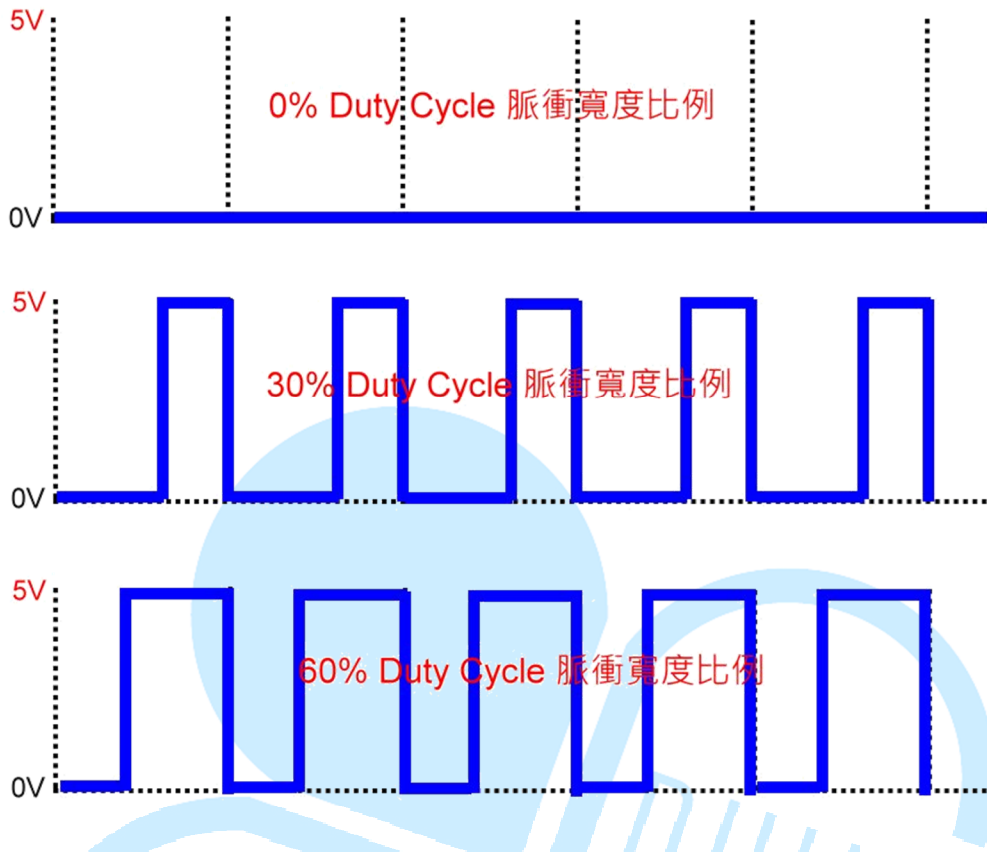

Figure-2. PWM with different duty cycle
The length of time for each square wave is refer to as the duty cycle. Frequency (Hz) is the number of square wave over a period of time. For example, 60 square wave within a period of 1 second is 60 Hz/Sec. A continuing stream of these square wave, adjusted to different frequency and duty cycle, can be applied to different purpose, as shown in figure-2.
- To generate PWM output as the 1st wave in figure-2 (0% duty cycle), use the following function:
- To generate PWM output as the 2nd wave in figure-2 (30% duty cycle), use the following function:
- To generate PWM output as the 3rd wave in figure-2 (60% duty cycle), use the following function:
One of the PWM output graph in figure-2 above is generated from the following function call: